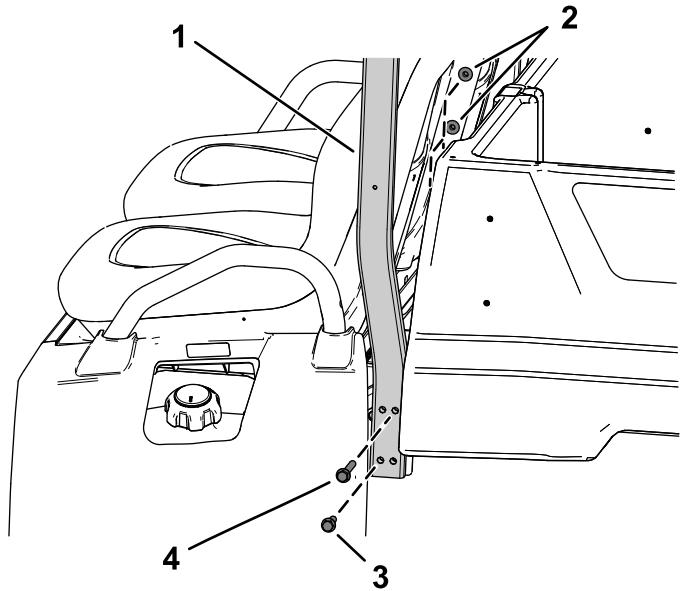

Figure 12
1. Loosely install the 2 rear mounting tubes using 2 flange-head bolts (3/8 x 3-1/2 inches), 2 flange-head bolts (3/8 x 1-3/4 inches), and 4 locknuts (3/8 inch) as shown in Figure 12.